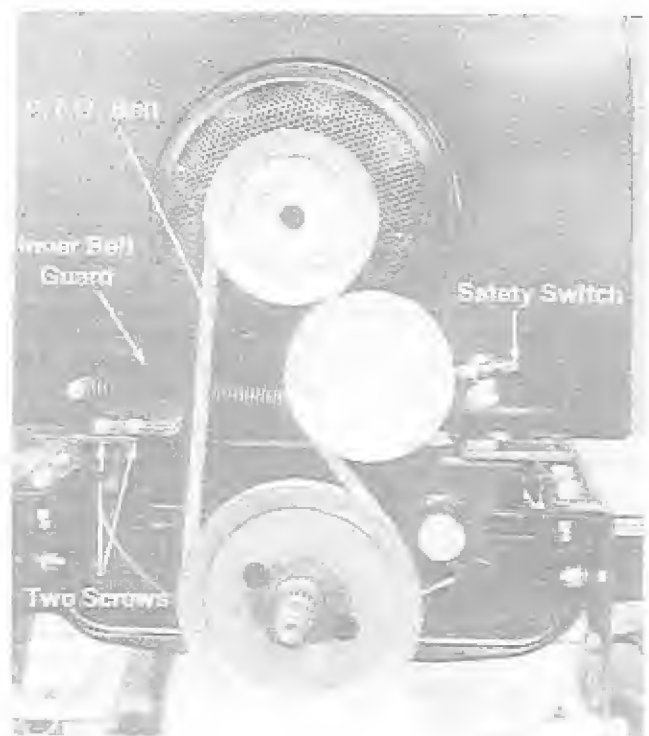

FIGURE 34.
3. Loosen two screws on inner belt guard. See figure 34.